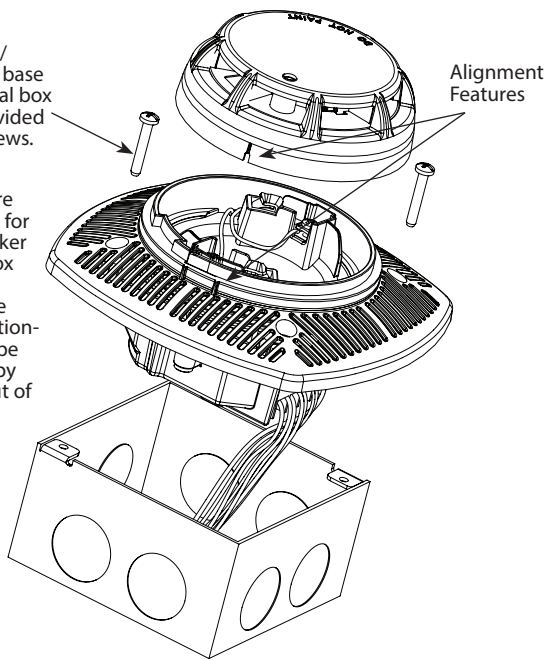
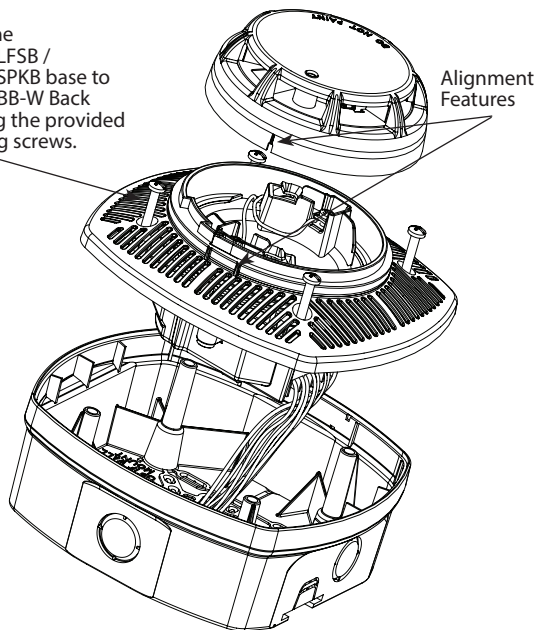

FIGURE 6a: Assembly of Detector on Electrical Box
FIGURE 6b: Assembly of Detector on LFSBBB-W Back Box
PAD100-LFSB / PAD100-SPKB should be mounted directly on the electrical box (FIGURE 6a) or to the LFSBBB-W back box (FIGURE 6b). The PAD100-LFSB / PAD100-SPKB mounting holes are configured for a 4" x 2-1/8" deep square box. Use a box for each base and run the power circuit to all base locations.
- To install the detector head onto the base, match the detector heads to the base using the alignment feature and twist clockwise until the detector heads snap into place (FIGURE 6a).